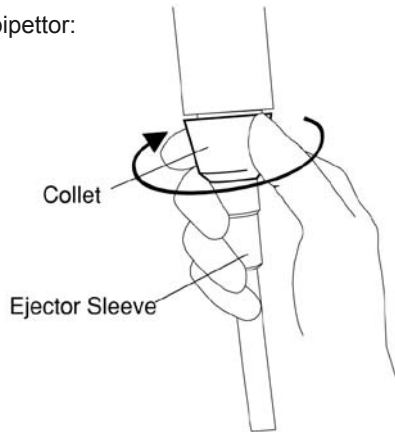

Figure F.1.1a: Detaching the Collet
1. Detach the collet by twisting it counter-clockwise (see Figure F.1.1a).